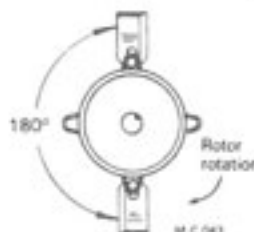

Figure 25
4. If all knife hanger pins are replaced, no rotor balance problem will be experienced. However, if only some of the knife hanger pins are replaced, the same number of pins must be replaced on the opposite side to maintain rotor balance, see Figure 25.